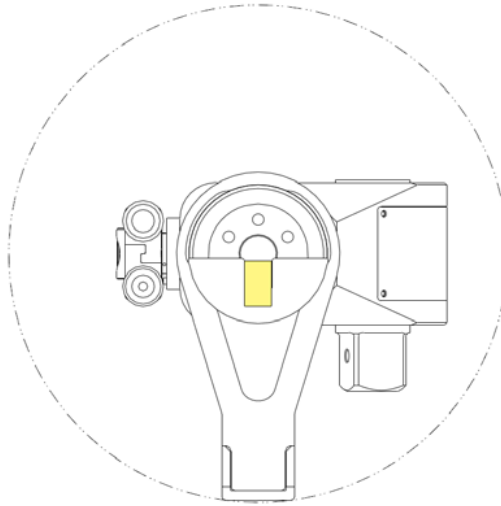

Figure 7 Typical Reaction Configuration and Adjustability
Every Titan T-Series Hydraulic Torque tool is equipped with a universal reaction arm. This component is used to counteract turning forces as the unit operates. The reaction arm can rotate 360° in 6° increments and should extend in the same direction as the square drive, see Figure 7.
- 4) To remove, push the reaction arm lever (gold lever shown in Figure 7) and slide the reaction arm off the tool.